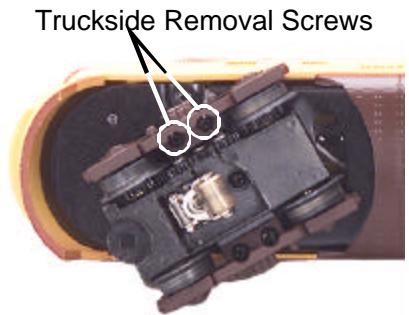

Figure 5. Screws to Remove to Access the Traction Tires
First, remove the truck sides from the truck block. To do this, turn your engine upside down. If there are visible Phillips screw heads between the truck frame and truck block (see Fig. 5), go to step A. If not, go to step B.
B. Remove the trucks from the chassis and the truck sides from the trucks in order to slip the new tire over the grooved drive wheel. See Fig. 5 for which screws you must remove to do this.